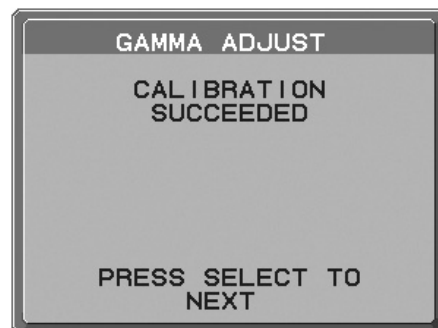

Figure 16
5. After the CALIBRATION SUCCEEDED message appears (**Figure 16**), press SELECT. To end the calibration mode, press "EXIT".